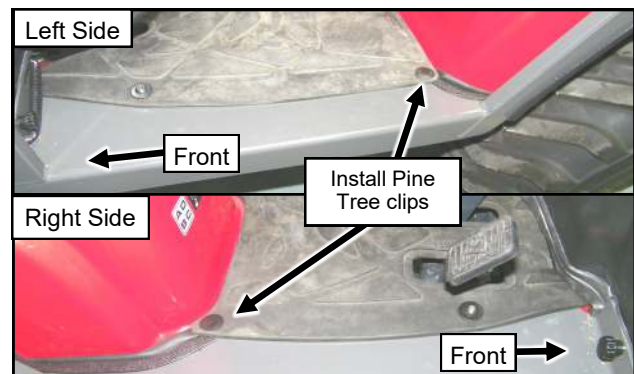

Fig. 17.2 (Floor Mat Pine Tree Clips)
17.2 Install new Pine Tree Clips through the rear of each side of the floor mat, through the cab and tractor floorboards. See Fig. 17.2.